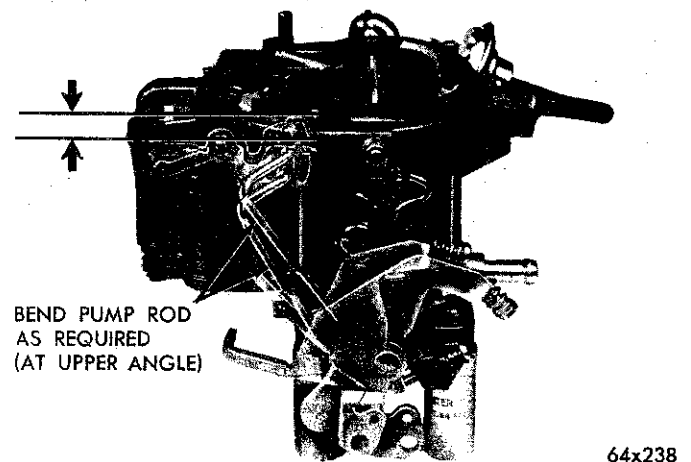
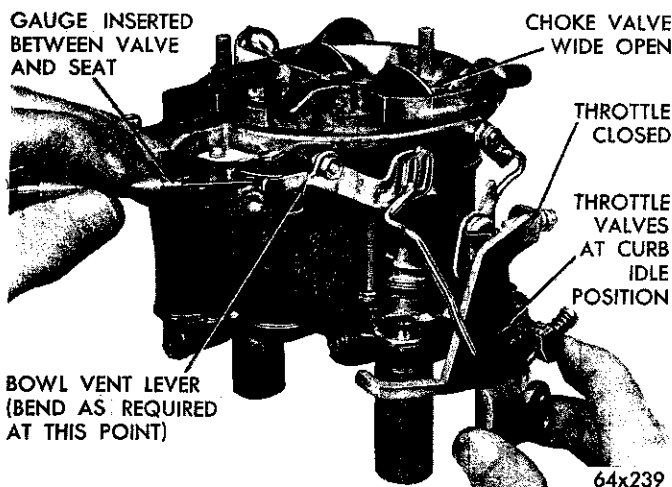

Fig. 22—Accelerator Pump Travel
Fig. 23—Measuring Bowl Vent Valve Opening
**Accelerator Pump Travel (Fig. 22)**
(1) With the throttle valves fully closed, measure the pump travel from the fully closed to the fully open throttle.
(2) This travel should be  $\frac{7}{16}$  inch as shown.
(3) If an adjustment is necessary, bend the pump rod at the point shown, using Tool T109-213, until correct travel has been obtained.
**Bowl Vent Valve Setting (Fig. 23)**